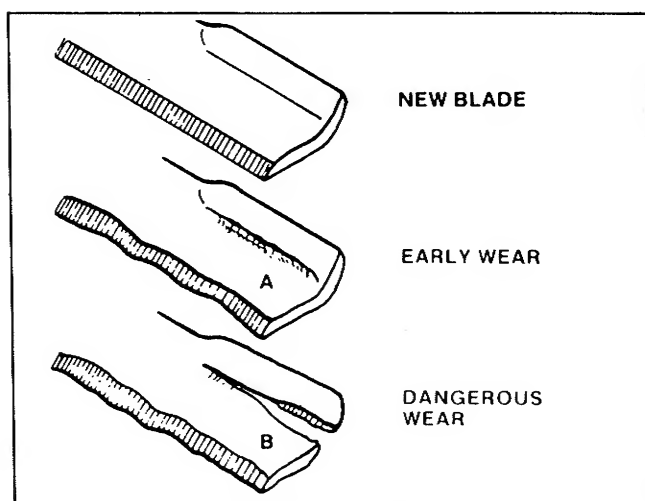

FIGURE 13
3. Examine the blade at the area of the upturned air vanes for the type of wear displayed in Figure 13. Abrasives encountered by the blade can wear metal until it cracks as shown in "A" of Figure 13. Because such cracks, enlarging as in "B," can result in the pieces breaking off to become potentially injurious projectiles, blades should be replaced at the first sign of a crack.